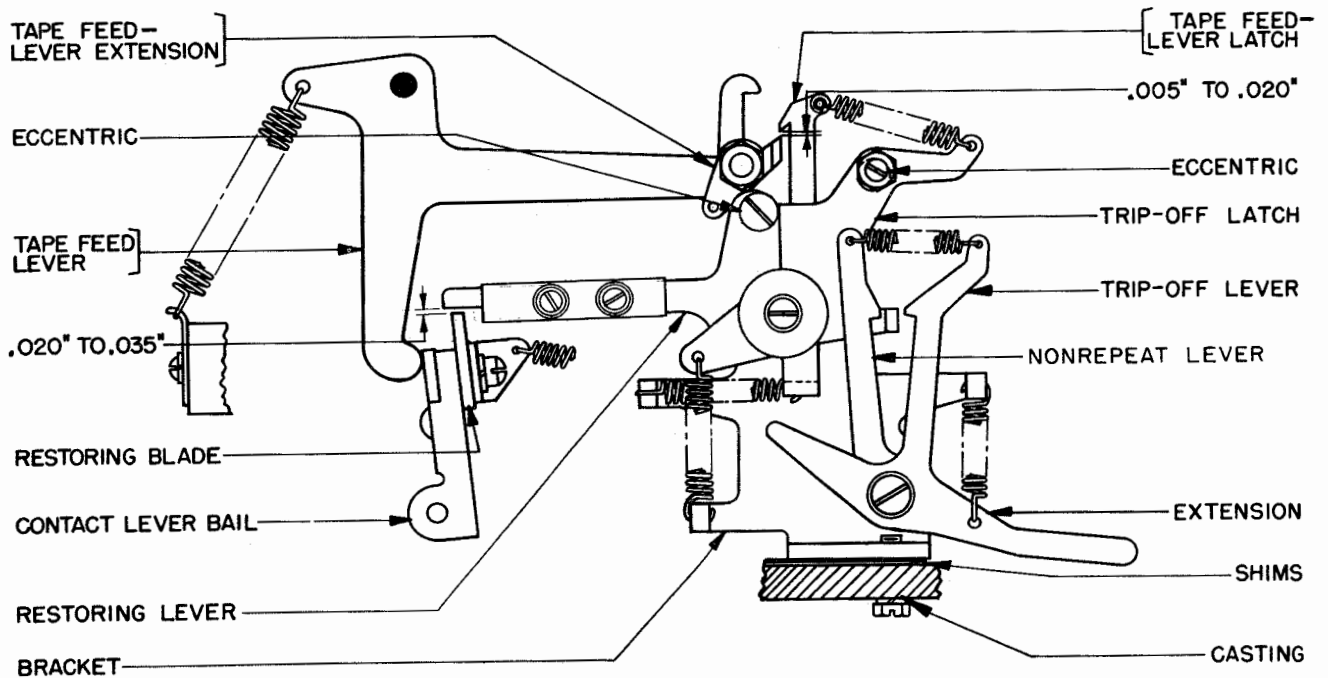

Figure 45
15.01 Tape Feed-lever Latch: With the operating lever roller on the peak of its cam and the latching tooth on the tape feed-lever latch held in line with the edge of the tape feed-lever extension, there shall be minimum 0.005, maximum 0.020 inch clearance between the tape feed-lever latch and the tape feed-lever extension. (See Figure 45.)